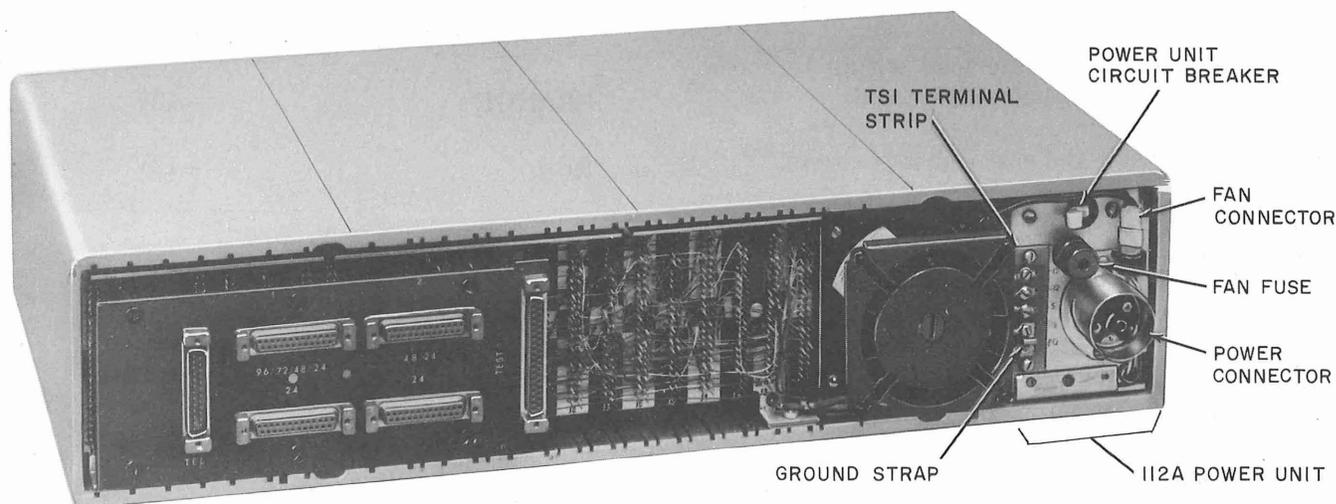

Fig. 1—112A Power Unit Installed In 209A Data Set With Faceplate Removed—Rear View
2.01 The power unit (Fig. 1 and 2) operates on an ac input of 105 to 129 volts, 57 to 63 hertz. The dc outputs of the unit are +5 volts, +12 volts, and -12 volts. Each dc output is